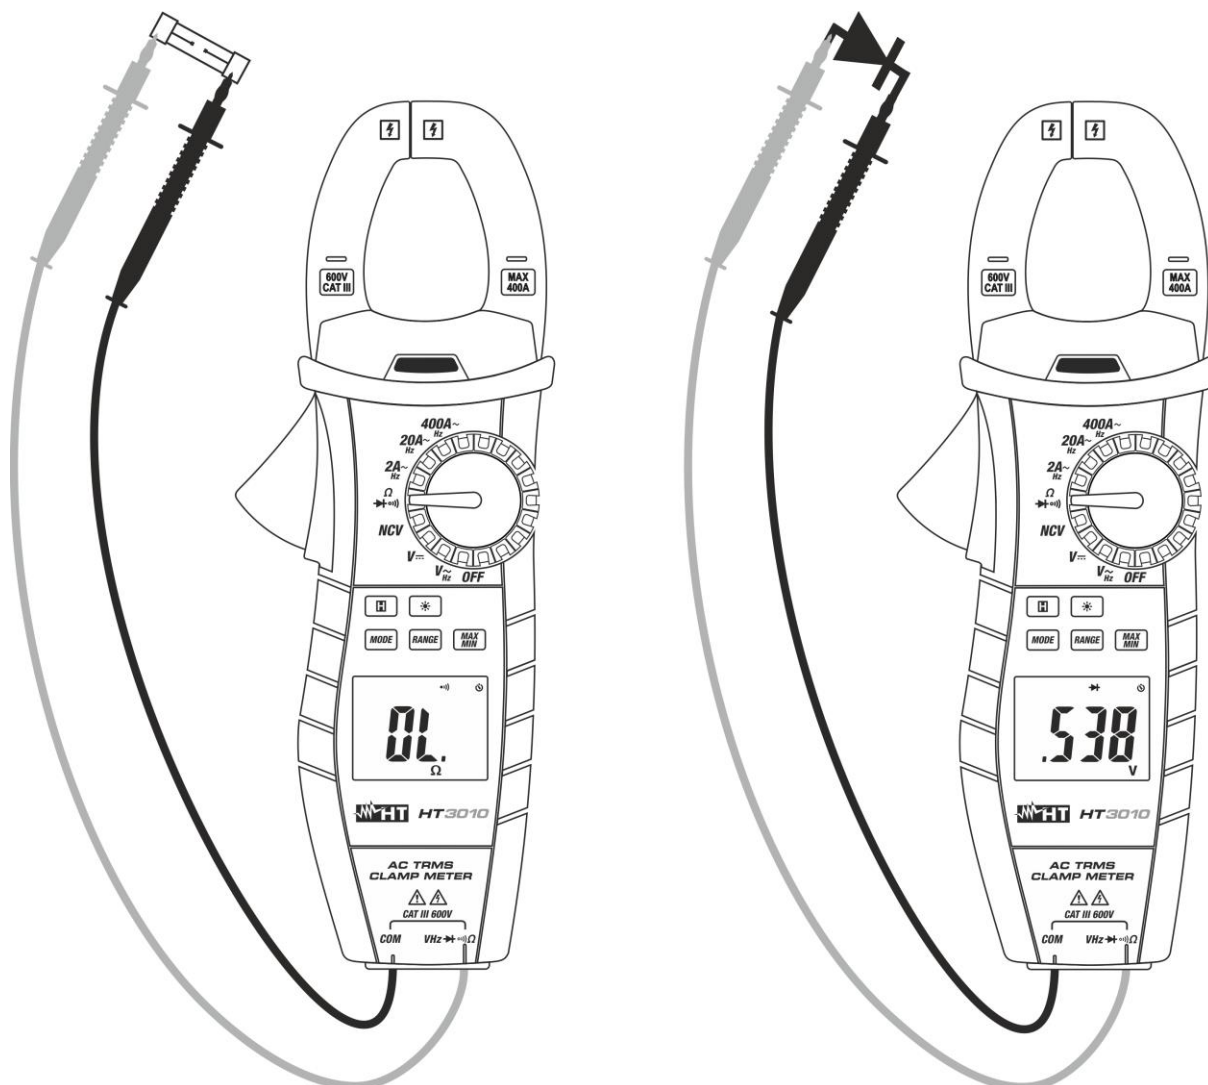

Fig. 7: Use of the instrument for continuity test and diode test
3. Insert the red cable into input terminal **V Ω Hz $\rightarrow \rightarrow \rightarrow$** and the black cable into input terminal **COM** and carry out the continuity test of the object to be measured (see Fig. 7– left side). An buzzer sounds when the measured value of resistance is lower than 30 Ω
5. Connect the red lead to the anode of the diode and the black lead to the cathode in case direct polarization measurement is carried out (see Fig. 7 – right side). Invert the position of the leads in case reverse polarization measurement is carried out.